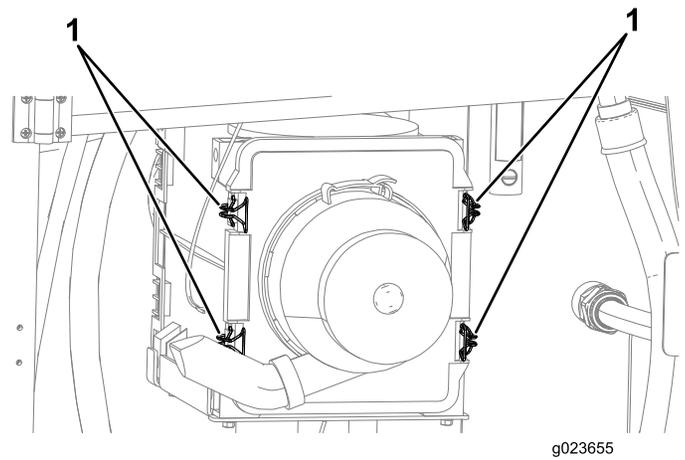

Figure 85
5. Pull the 4 latches for the air-cleaner cover outward (Figure 85).
4. Place air-cleaner cover inward until it is fully seated, and secure it with the latches (Figure 85).